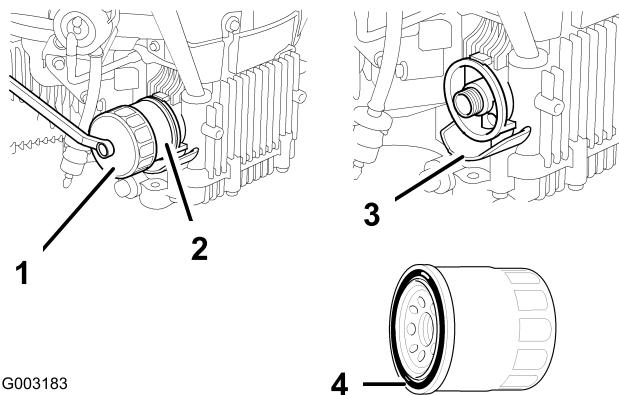

Figure 28
- Change the oil filter, if necessary (Figure 28).
- Remove the old filter using an oil filter wrench. Wipe the filter mounting base surface clean (Figure 28).
- Apply a thin coat of clean oil to the rubber gasket on the replacement filter (Figure 28).
- Install the replacement oil filter to the filter base by hand. Turn the oil filter clockwise until the rubber gasket contacts the filter adapter; then tighten the filter an additional 7/8 turn (Figure 28). Oil Filter torque: 15-17 lb (20-24 N·m)